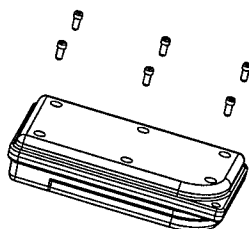

Fig. 8
1. Remove all six screws from back of housing as shown on **Fig. 8**.